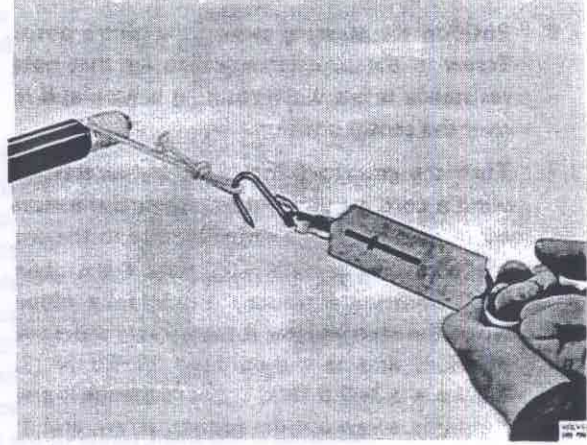

Fig. 64-22. Checking the pre-load
3. Wind a cord a couple of times round the steering column and attach a spring balance to the end of the cord, see Fig. 64-22. Rotate the steering column and read off the force on the bearings, which should be between 2.5-5.5 kp (5.5-12 lbf). With excessive pre-load, add shims, and with too little pre-load, remove some.
7. Turn the gear to full lock in one direction and wind a cord a couple of times round the steering column and attach a spring balance to the end of the cord, see Fig. 64-22. Rotate the steering shaft. Maximum resistance should be obtained when the steering gear is turned across the centre position, and this should be 15-25 N (1.5-2.5 kp = 3.3-5.5 lbf). If the resistance is greater than this, screw out the adjuster screw, and if the resistance is too small, screw in the adjuster screw. When the correct value has been obtained, tighten up the lock nut. Re-check the value after having tightened up the lock nut.